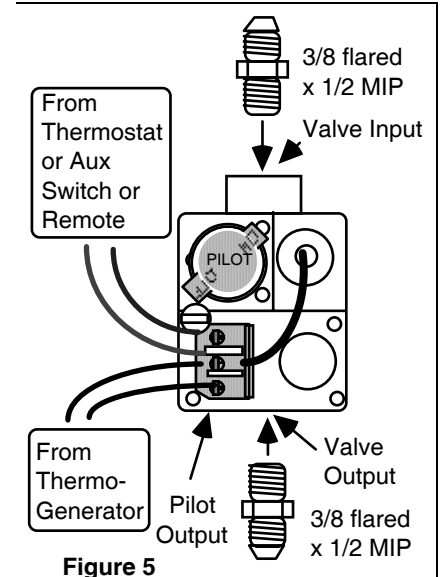

Figure 5
STEP THREE: Valve Fittings (Figure 5).
1. Attach the **JPG-9 Thermo-generator Leads** to the "**PG**" and "**PG TH**" terminals of the **Valve Terminal Block**. See Figures 5, 6 and 7.